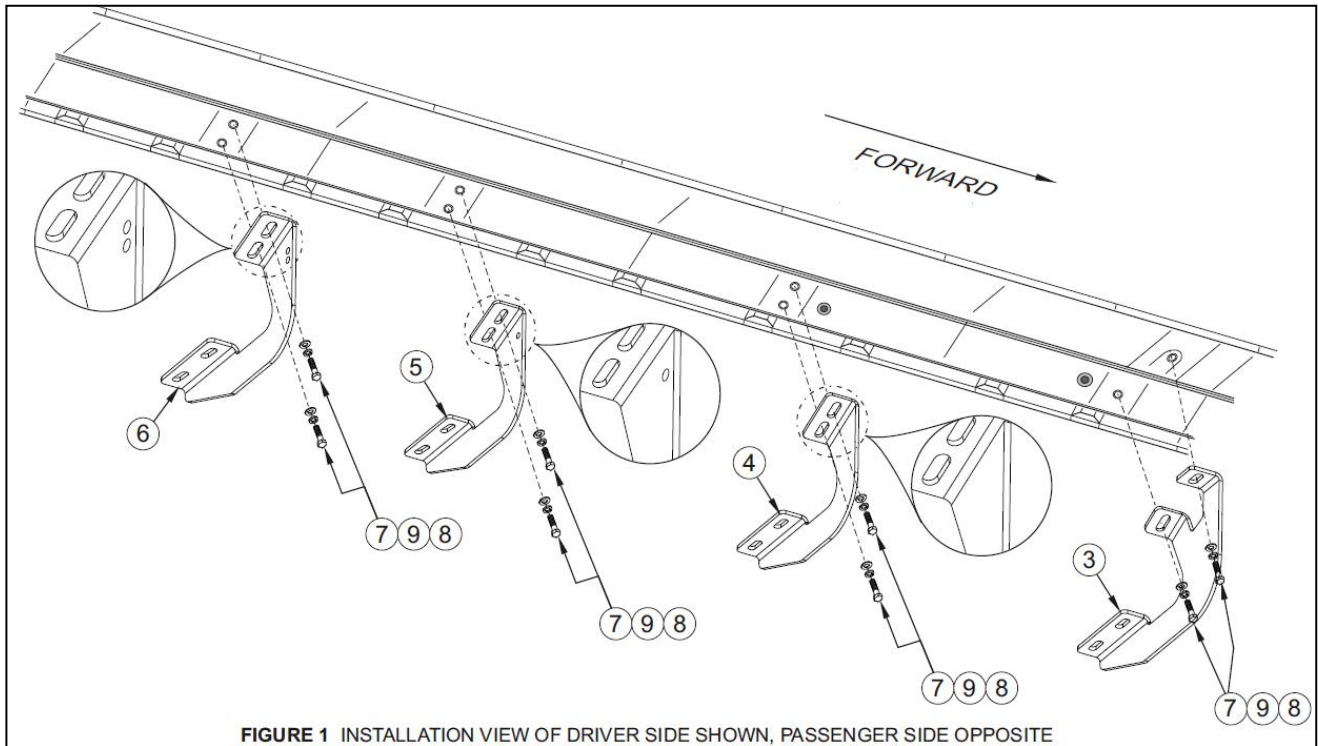

FIGURE 1 INSTALLATION VIEW OF DRIVER SIDE SHOWN, PASSENGER SIDE OPPOSITE
2. Determine front, front center, rear center and rear brackets. Rear/center bracket has one identification hole and rear bracket has two identification holes (**Figure 1**).
3. Attach driver side brackets to underside of body panel using two M8x 30mm hex head bolts, M8 flat washers, and M8 lock washers per bracket. Hand tighten (**Figure 1**).